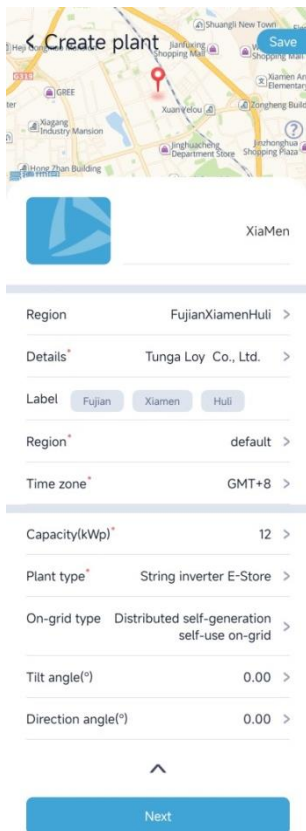
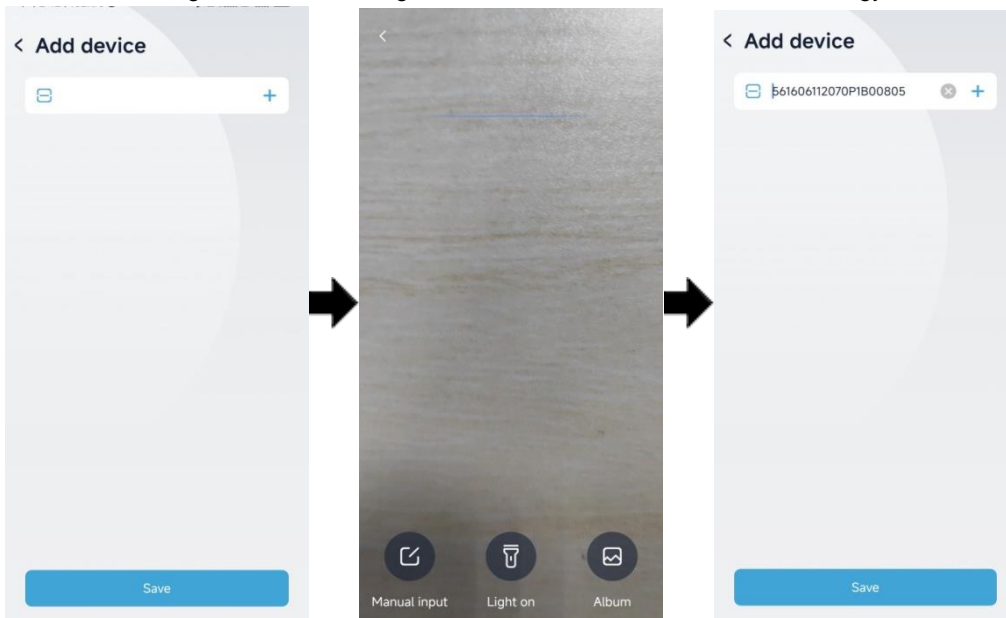

Figure4-3 Enter corresponding information
Figure4-4 Add device
- Step 5 After entering corresponding information, tap **Next** button at the bottom of the page, it will turn to scan QR code page. Tap the left scan icon to scan the S/N code on the WIFI module (also, you can enter the S/N code manually). And then tap **Save** button, as shown in Figure4-3, Figure4-4.
Plant Type is used to select the device type, for ATG-ST-H01 , it must select **String inverter E-store**, as shown in Figure4-3. If the wrong choice is made, it will affect the main energy flow in main page.